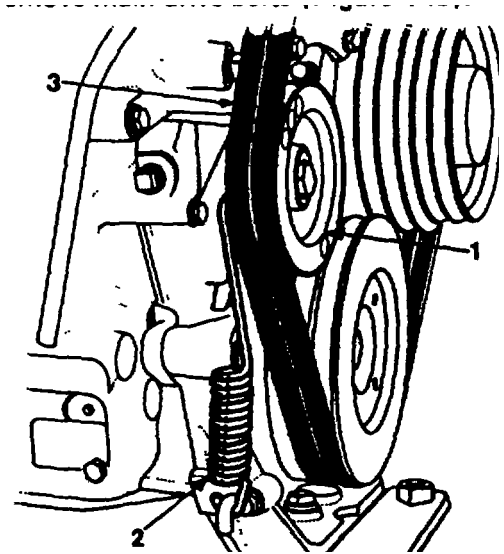

Figure 148. Removing Main Drive Belts
4. Pry idler pulley toward center of engine and remove main drive belts (Figure 148).